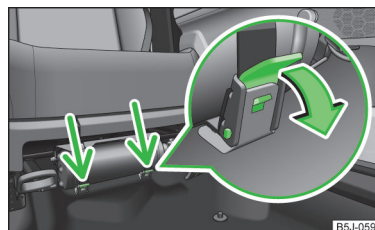

Fig. 146
- Loosen the two straps by pulling the buckles in the direction of the arrow » Fig. 146.